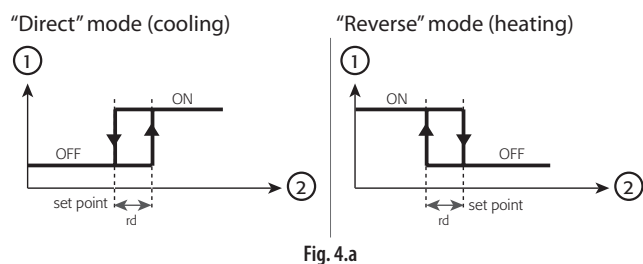

Fig. 4.a
- r3=0: direct with defrost. Used to request the activation of the compressor when the temperature measured by probe 1 rises above the set point. This mode also includes defrost (also called “cooling” mode, see Fig. 4.a)
- r3=1: direct without defrost (Fig. 4.a)
- r3=2: reverse without defrost (Fig. 4.a). Used to request the activation of the compressor when the temperature measured by probe 1 falls below the set point. This mode does NOT include defrost (also called “heating” mode, see Fig. 4.a).